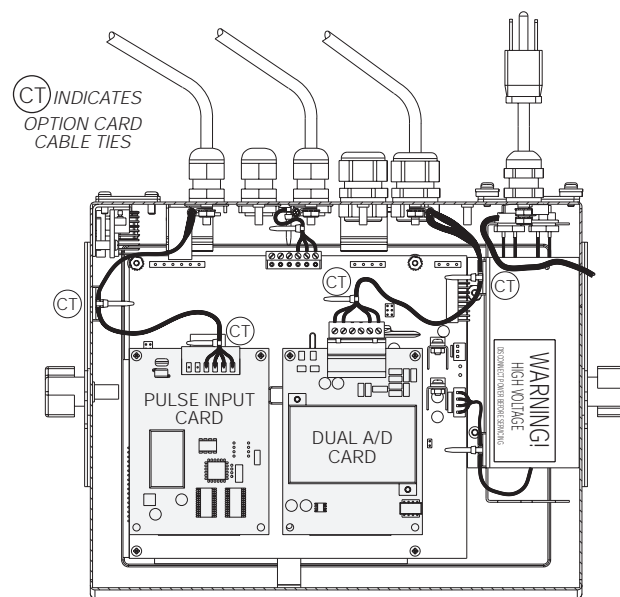

Figure 2-6. Installed Option Cards, Showing Secured Cables
4. Make connections to the option card as required. Use cable ties to secure loose cables inside the enclosure as shown in Figure 2-6. When installation is complete, reassemble the enclosure as described in Section 2.6 on page 11.